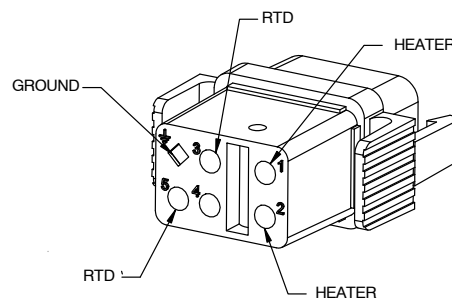

Figure 28 Pin positions on a nickel applicator cordset
3. See Figure 28 for nickel-sensor cordsets. Use an ohmmeter to check the heater resistance and continuity at the heater pins on the cordset:
3. See Figure 28 for nickel-sensor cordsets. With the sensor at a known temperature, use an ohmmeter to measure the sensor resistance at the sensor pins on the cordset.